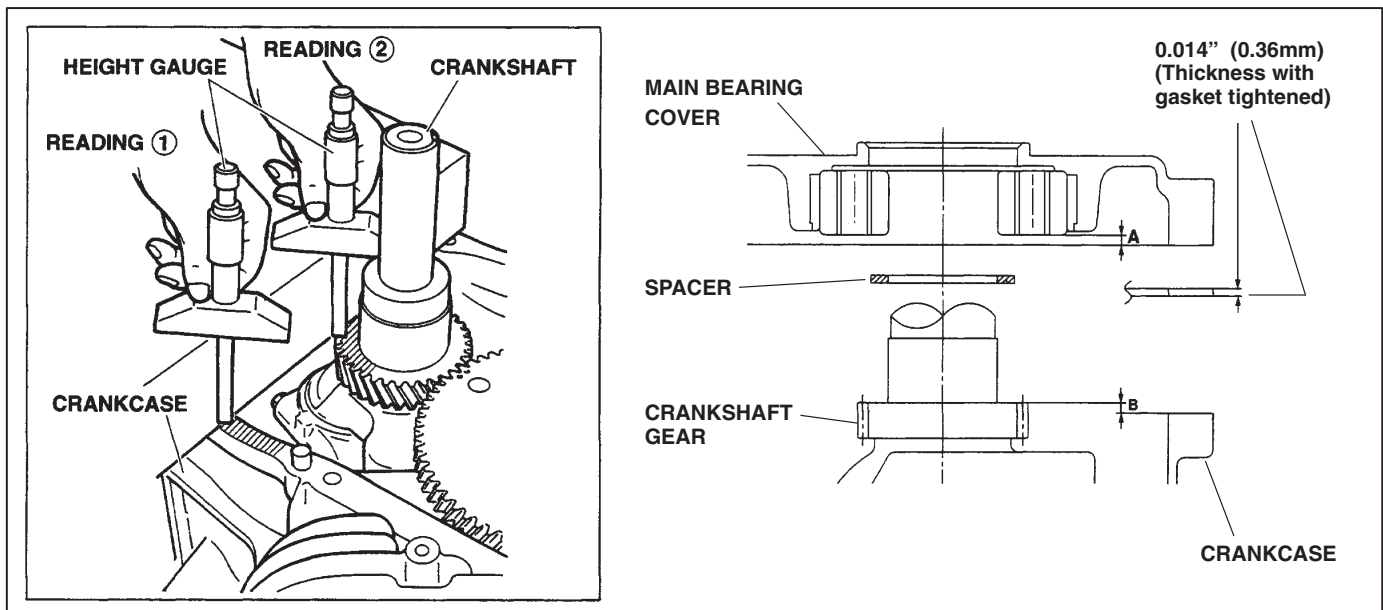

FIGURE 6-8.
- B. Spacer Calculation: (Refer to Figure 6-8.)